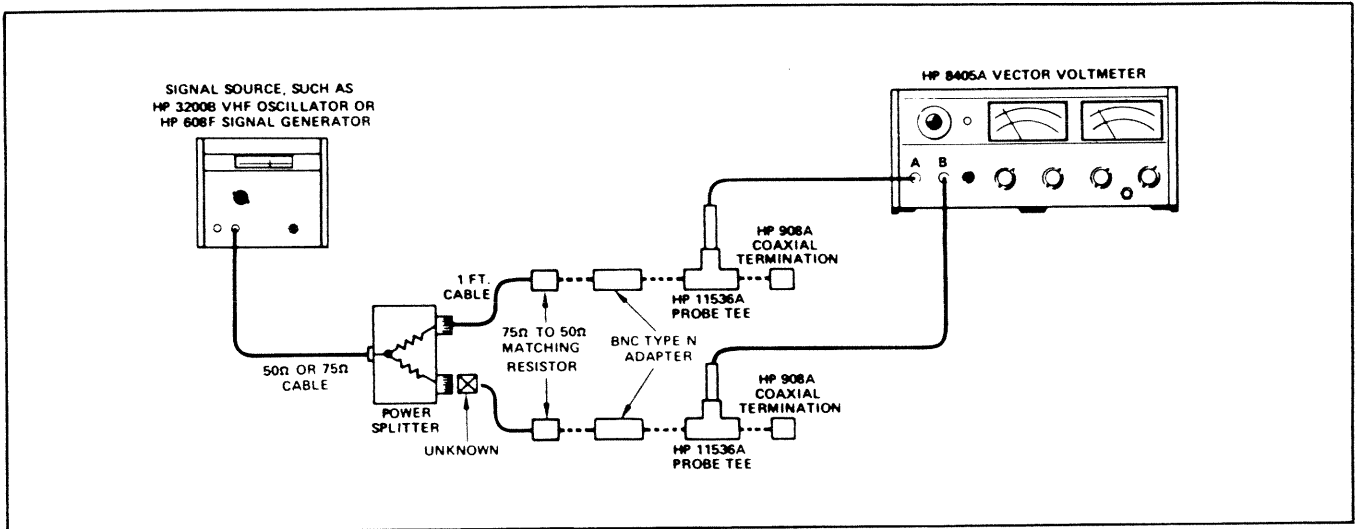

Figure 6. Setup for Making Transmission Measurements with HP 8405A
- a. Setup the equipment as shown in Figure 6.
- c. Insert the unknown at box marked UNKNOWN in Figure 6 and make measurement.